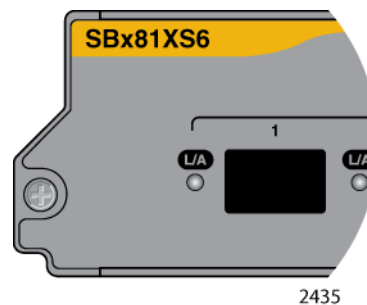

Figure 29. SFP+ Port LEDs on the AT-SBx81XS6 Line Card
**LEDs** The AT-SBx81XS6 Line Card has one LED for each SFP+ port. The LED is shown in Figure 29 and described in Table 12 on page 56.